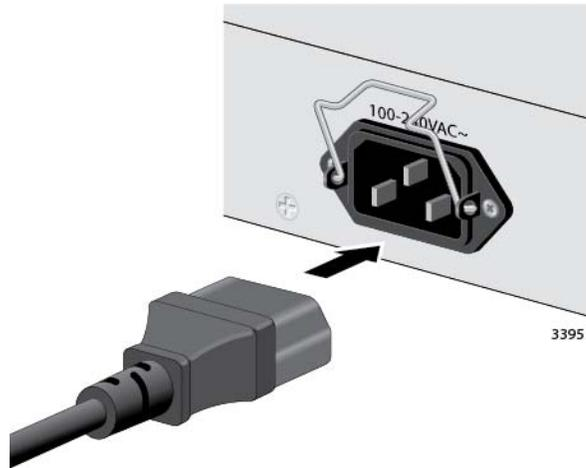

Figure 47. Plugging in the AC Power Cord
3. Connect the power cord to the connector. Refer to Figure 47.